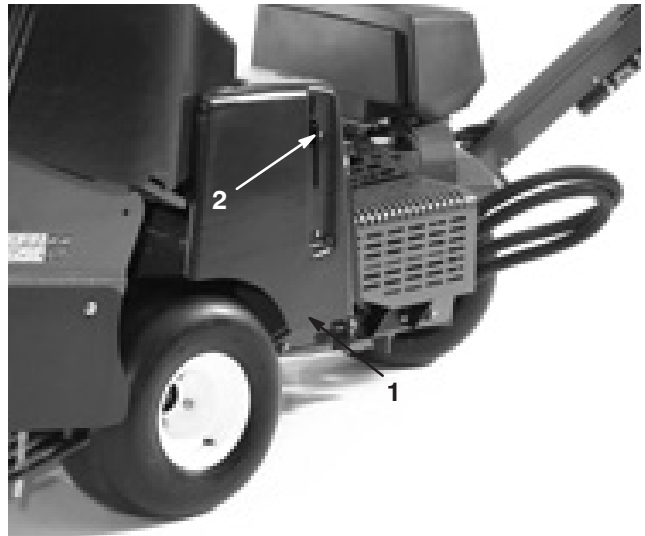

Figure 8
1. Insert a 1/4 x 1 inch capscrew thru the belt cover latch lever and secure with a 1/4 locknut (Fig. 8 & 9).